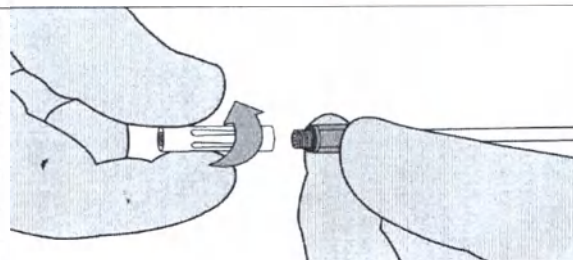

Figure 13
1. Remove the Airless Spray Tip portion of the spray and drip tip by unscrewing the Airless Spray Tip (Fig. 13).